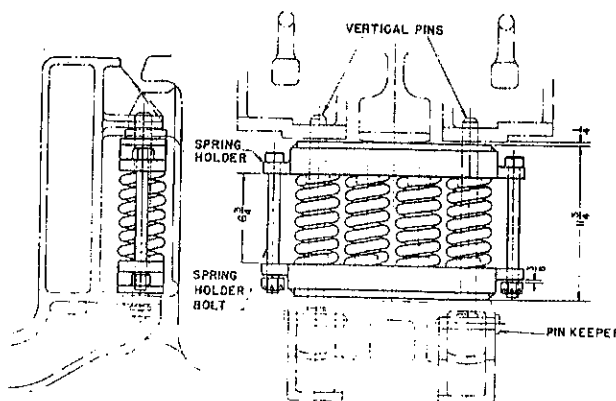

Fig. 37 - TRACTION MOTOR NOSE SUPPORT
3. Remove all motor nose suspension spring nests as follows. See Fig. 37.